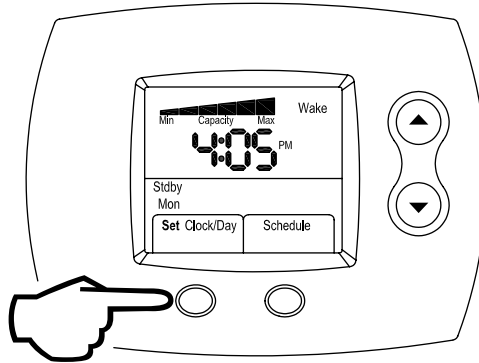

Figure 109
Step 1: From the Home screen, press the **LEFT** (Set Clock / Day) button, as shown in Figure 109.